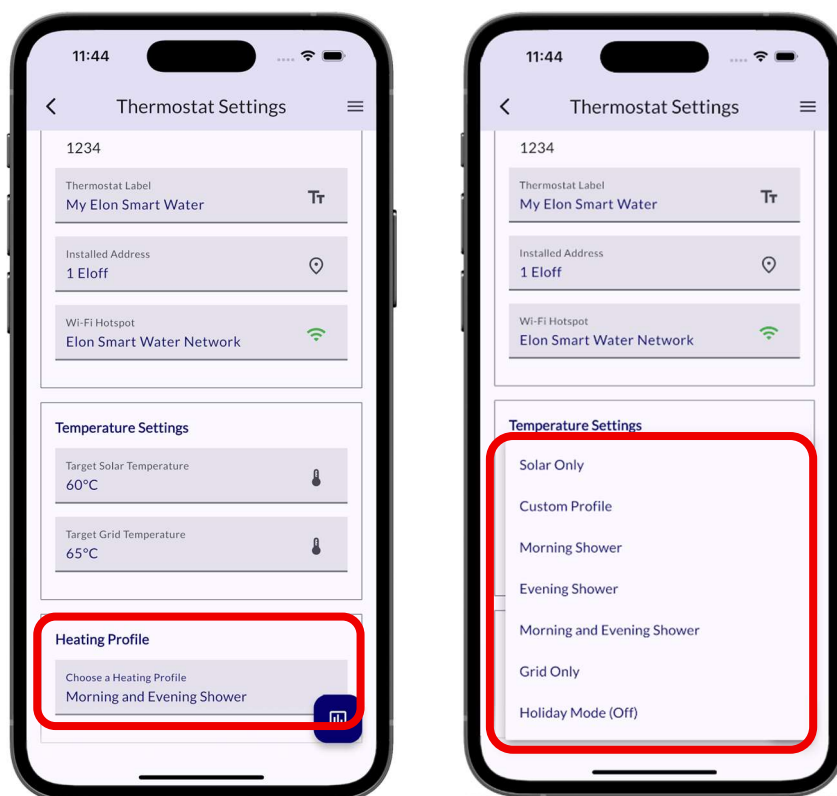

Figure 4.16 Heating Profile settings Figure 4.17 Select Heating Profile
49. Next you can set the **“Heating Profile”** according to your preference (see **Figures 4.16** and **4.17**). Select how the household wishes to use the hot water generated by the Smart thermostat (**Table 4.1**). It is typically best to start with the **“Morning and Evening Shower”** profile.